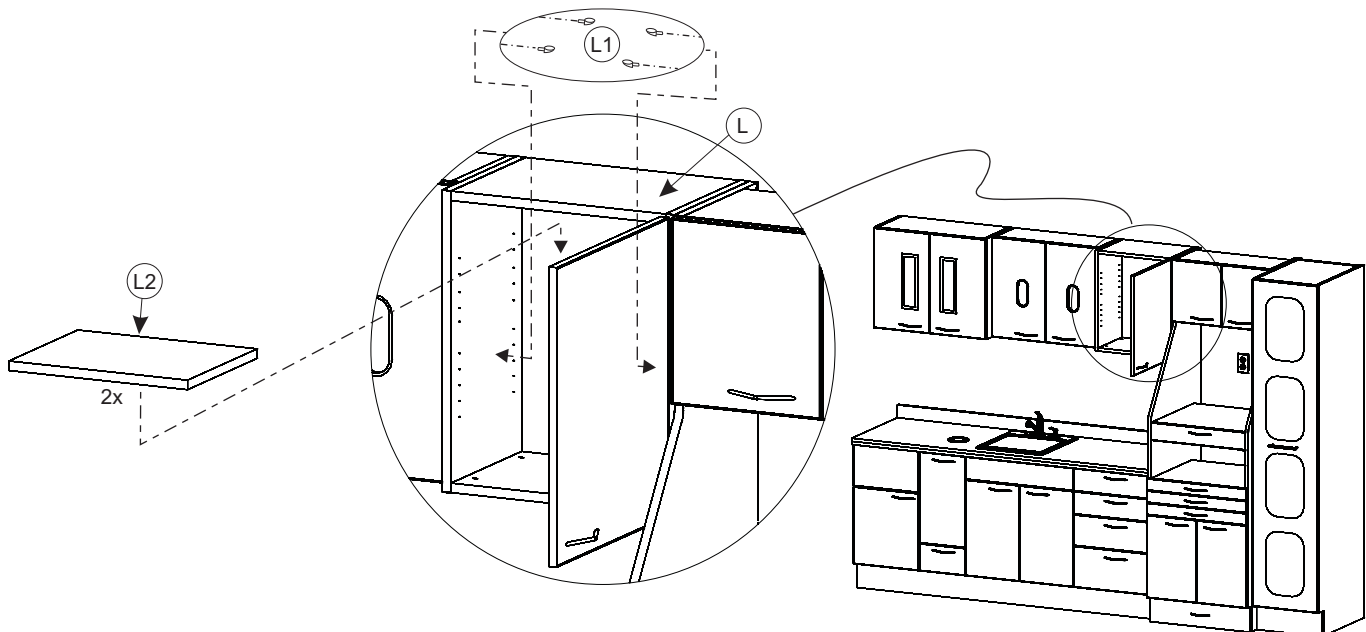

Figure 17
Insert Shelf Supports (L1) into the holes in the interior end panels in the Wall Cabinet (L) then set each Shelf (L2) onto the Shelf Supports (see Figure 17).